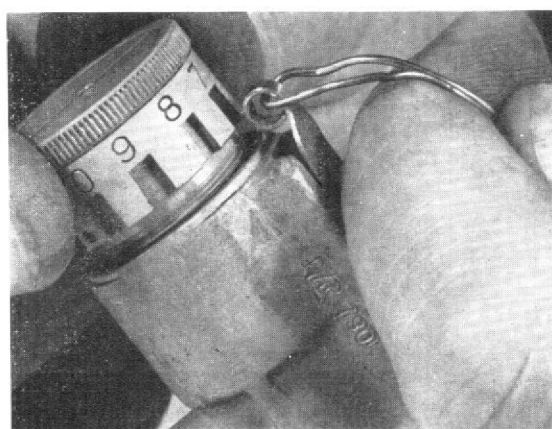

Fig. 7. Using locking wire to hold locking spring clear of notches in adjuster plug.
- (c) Remove the locking wire. Before withdrawing the wire from the loop in the locking leaf spring (12) use this to hold away the spring (12) from the notches in the adjuster plug (2), whilst unscrewing completely the latter from the pump assembly (Fig. 7).
- (d) Pull the pumping piston (10) and spring (9) away from the bottom of the cylinder (15).